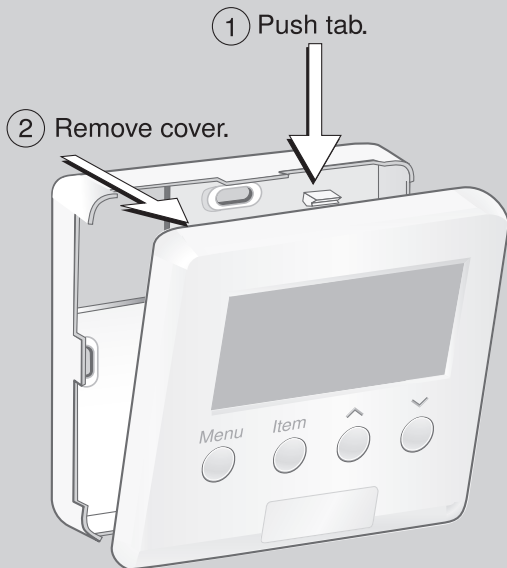

Figure 1: Removing the Front Cover
2. Push the screwdriver against the plastic tab and pull the top of the front cover so that it pivots around the bottom edge of the base. (See **Figure 1.**)